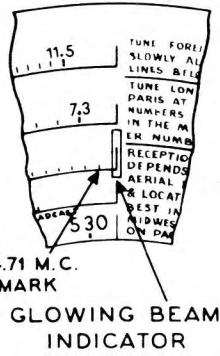

Fig. 8. Dial Calibration
**EQUIPMENT REQUIRED:** (1) Signal Generator, having a fundamental frequency range covering the tuning and intermediate frequencies of the receiver. **Philco Model 077 Signal Generator** which has a fundamental frequency range from 115 to 36000 K. C. is the correct instrument for this purpose; (2) Output Meter, **Philco Model 026 Circuit Tester** incorporates a sensitive output meter and is recommended; (3) Philco Fibre Handle Screw Driver, Part No. 27-7059 and Fibre Wrench, Part No. 3164.
1. Loosen the set screws on the shaft coupling of the tuning condenser. Then turn the tuning condenser until the plates are in the maximum capacity position. Now turn the dial until the glowing beam indicator is on the Index Line at the low frequency end of range 3. (See Fig. 8). With the dial and tuning condenser in this position tighten set screws.
2. Turn the tuning condenser control until the indicator is on the 4.71 M. C. mark of range 3. (See Fig. 8.)